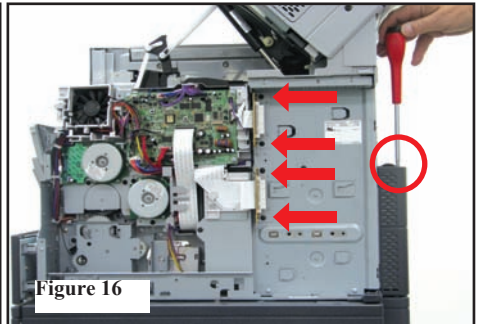

Figure 16
15. Remove left rear cover, one screw. (Figure 16, red circle)
16. Remove 2 formatter connectors, 2 shouldered screws each and reposition cables. (Figure 16, red arrows)